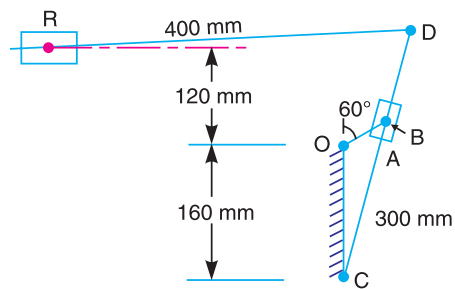

Fig. 8.43
8. In a quick return mechanism, as shown in Fig. 8.43, the driving crank OA is 60 mm long and rotates at a uniform speed of 200 r.p.m. in a clockwise direction. For the position shown, find 1. velocity of the ram R ; 2. acceleration of the ram R , and 3. acceleration of the sliding block A along the slotted bar CD .